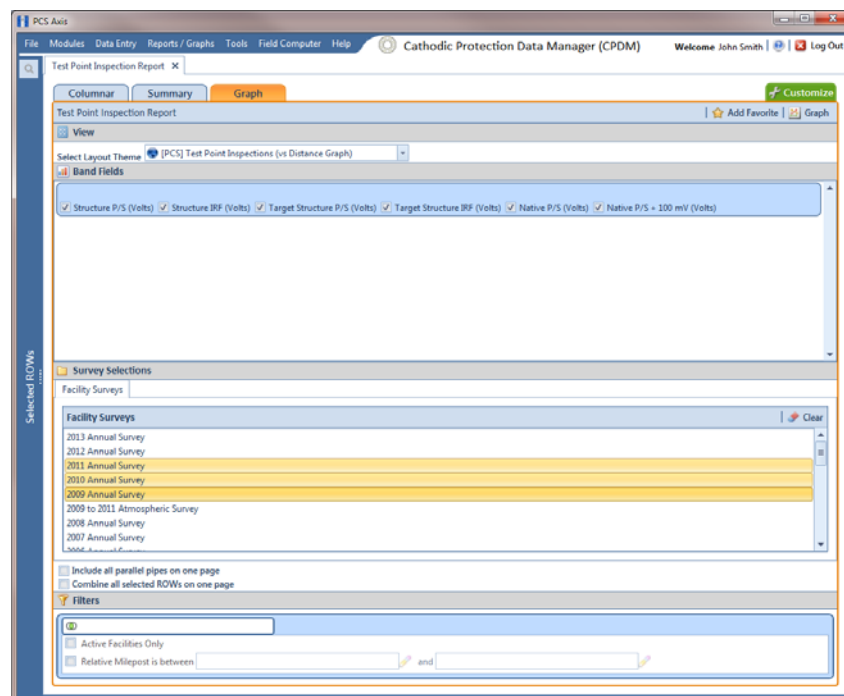

Figure 15-26. Test Point Inspection Graph Report
- 3 Click the **Graph** tab  to open a property settings window. For example, the next figure shows the property settings window for the *Test Point Inspection* graph (Figure 15-26, page 605).